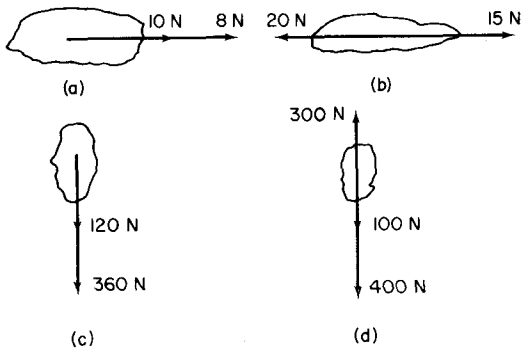

Fig. 2.26
23. Find the resultant of the systems of forces shown in Fig. 2.26.